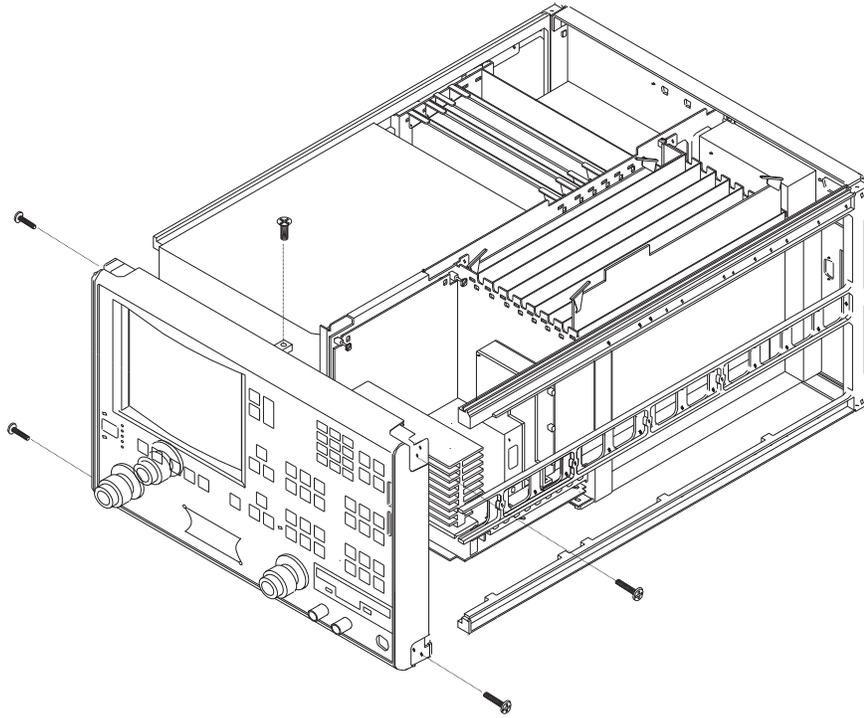

Figure 8-5. Removal of Front Panel Assembly
Step 2. Remove the four corner screws and the top center screw that secure the front panel assembly to the chassis (see Figure 8-5).